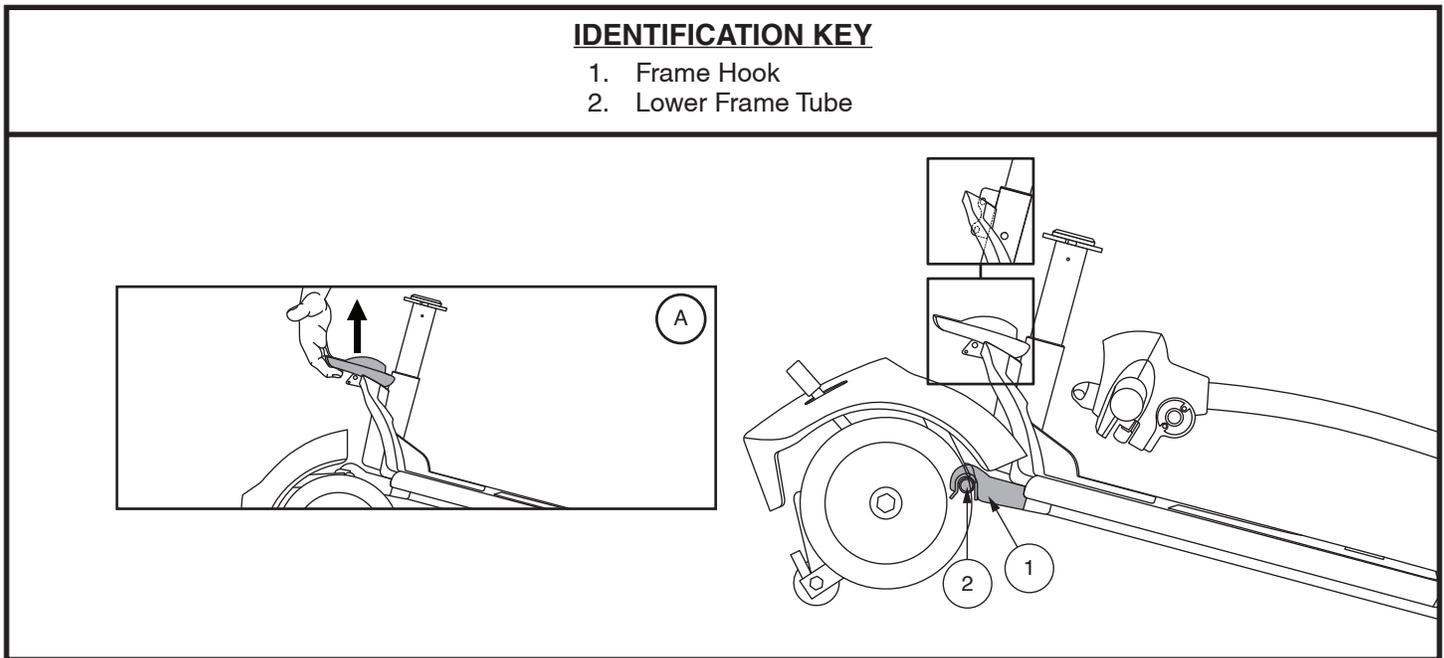

Figure 18. Frame Release Lever
3. Slowly separate the two sections of the vehicle. See **figure 18**.
1. Use the frame release lever to lift the front section as you align the frame hooks of the front section with the lower frame tube of the rear section. See **figure 18**.
2. Once the frame hooks are over the lower frame tube, lower the front section and pivot the rear section simultaneously. This will engage the frame lock-up automatically. See **figure 18**.